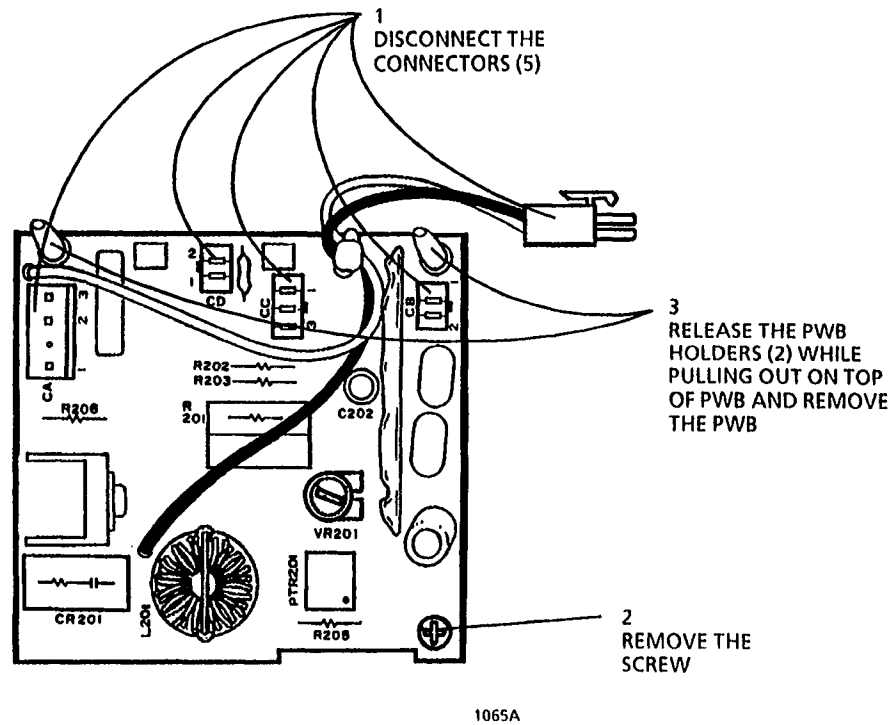

Figure 1. Removing the Exposure Control PWB
3. (Figure 1): Remove the exposure control PWB.